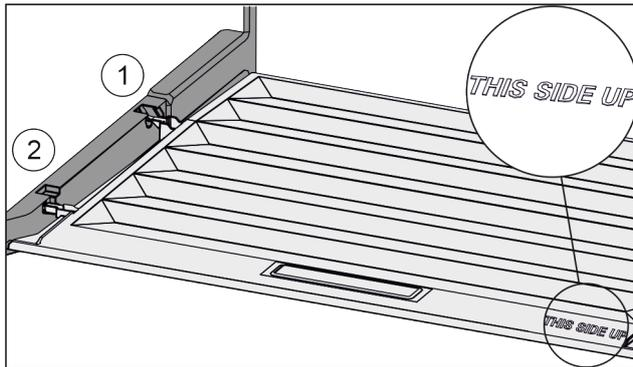

Fig. 43
- ▶ Insert the lip of the cover over the opening of the rear bracket Fig. 43 (1) and click into place Fig. 43 (2).